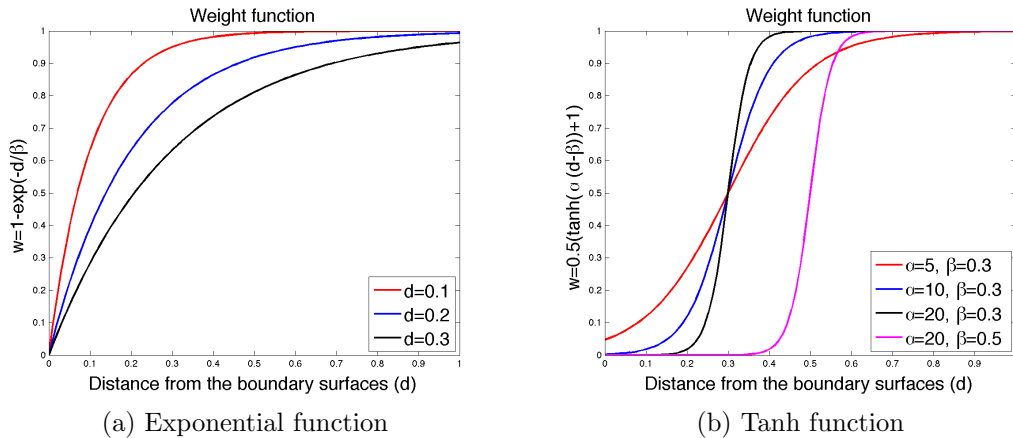

Figure 1: Weight function with different parameters
1. The values of  $\alpha$  and  $\beta$  can be changed depending on how much movement the user wants to allow near the boundary surfaces. By default  $\alpha = 15$  and  $\beta = 0.2$  for the exponential and tanh based function. Figure 1(a) and (b) shows how  $w$  changes for different values of  $\alpha$  and  $\beta$ .